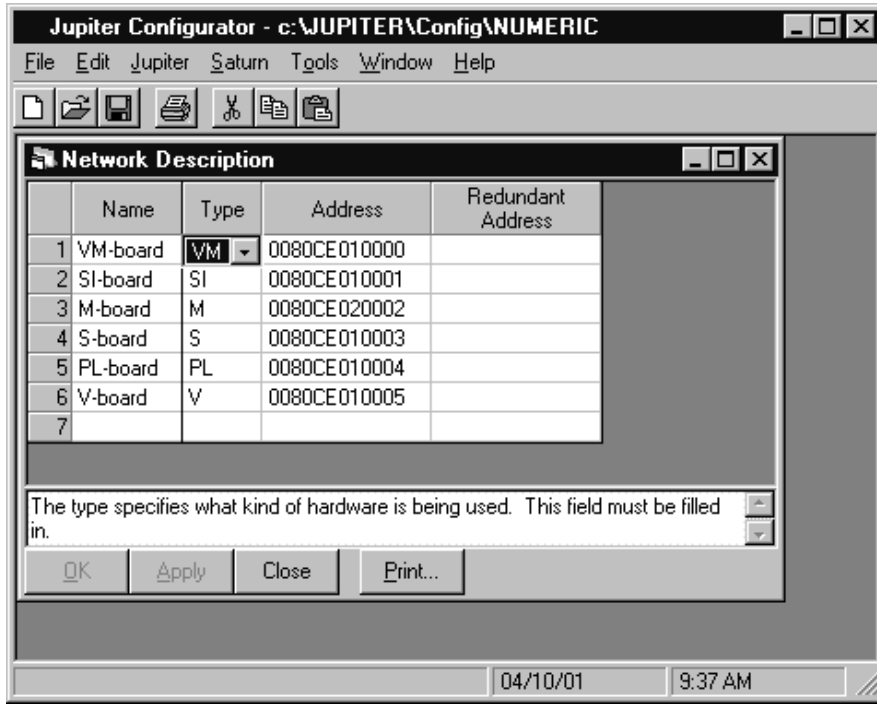

Figure 5-1.
- To access Jupiter tables, use the “Jupiter” pull-down menu. For example, if you select the Network Description table the display will be similar to the following (Figure 5-1).